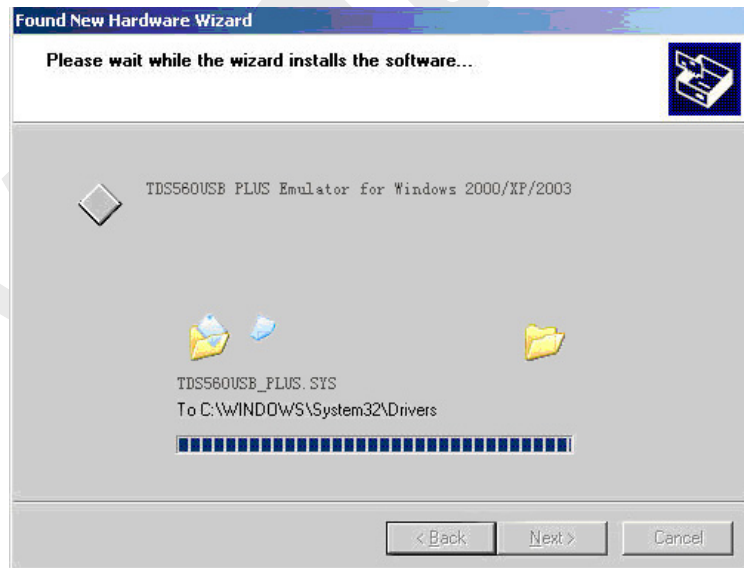

Figure A-4
4. Click on “Next” and the following window will be displayed, as shown in Figure A-4.